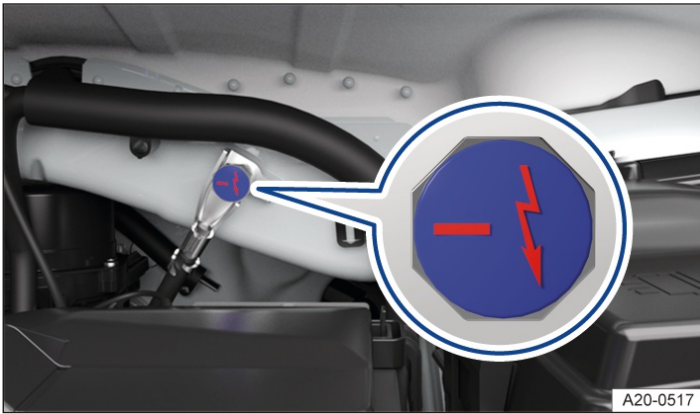

Fig. 1 In the bonnet space: jump-start connection point (earth connection).
- The jump-start connection point (earth connection) is used for connecting the *black* jump lead → Fig. 1.